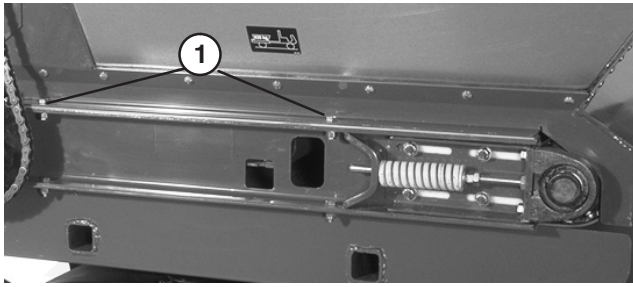

Figure 26
4. Remove (2) capscrews, washers and nut, on each side of machine, securing hopper to slider bed (Fig. 26).